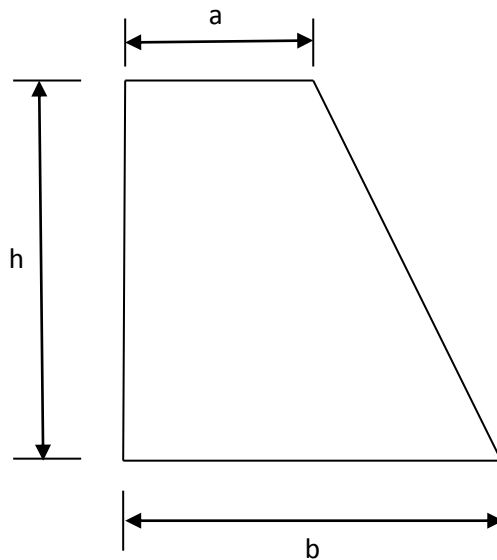

Fig.16
6. Find the centroid of the section of a masonry dam as shown in the Fig.16. [10 M]